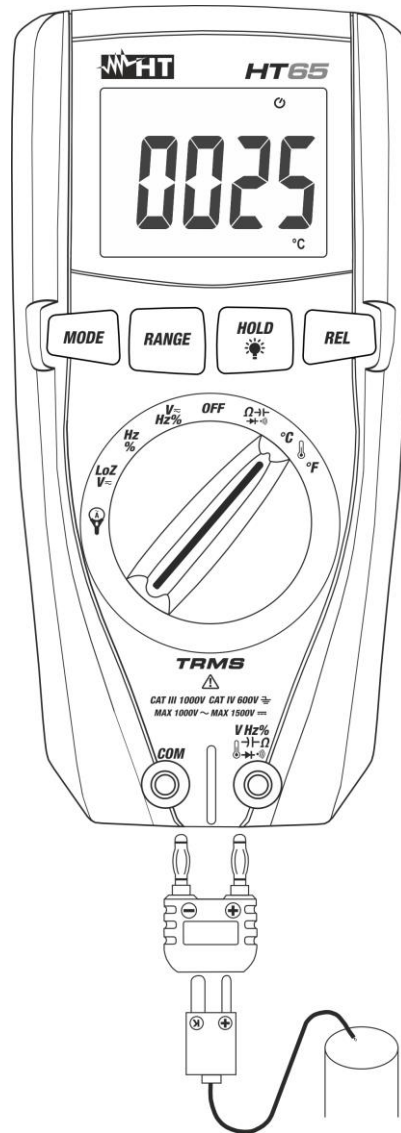

Fig. 9: Use of the instrument for Temperature measurement
2. Insert the provided adapter into input terminals Ω (polarity +) and COM (polarity -) (see Fig. 9)